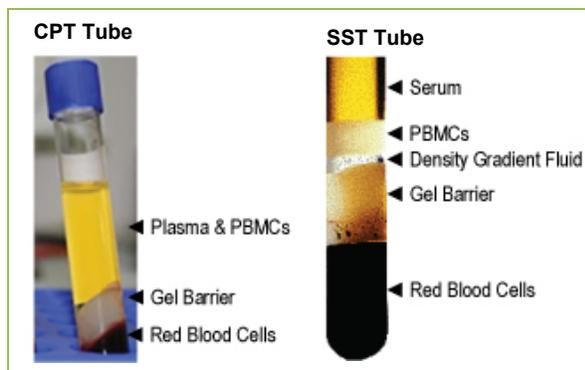

Figure 2: Vacutainer CPT and SST Tubes after Blood Centrifugation
- Inspect the tubes to ensure that proper blood separation was achieved (Figure 2).
6. Carefully remove the cap from the CPT tube and gently pour the plasma and PBMCs above the gel barrier (Figure 2) into an ice-cold 50 ml conical centrifuge tube. Maintain on ice.